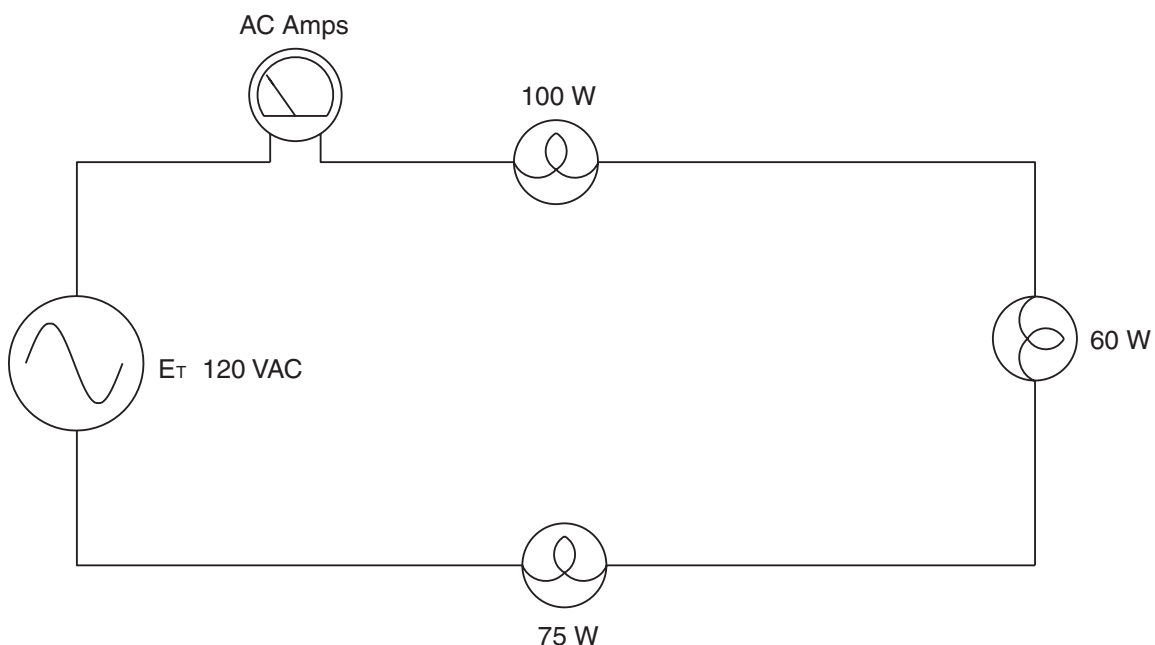

Figure 3-5 Connecting the second series circuit.
9. Replace the 40 watt lamp with a 60 watt lamp as shown in Figure 3-5.